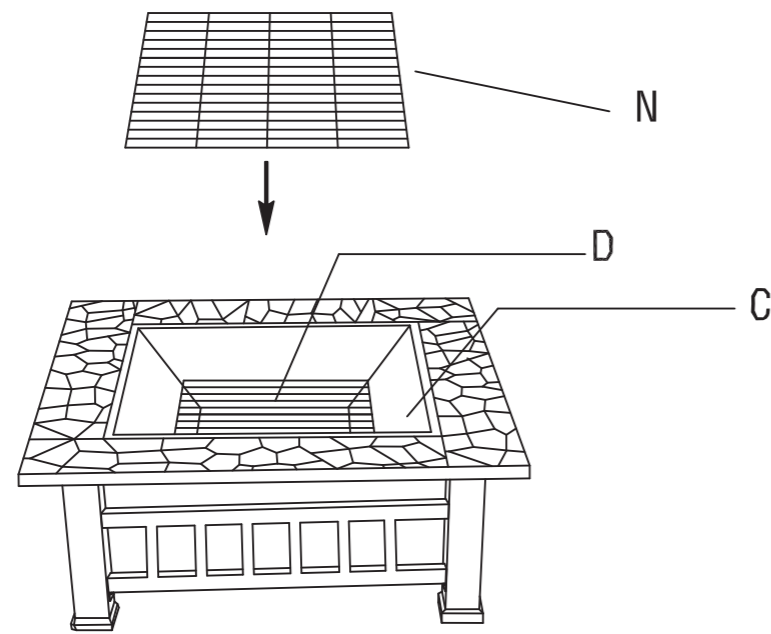

FIG4
Step 4 Tighten all the bolts accordingly with an Allen Wrench (N) (provided) until all pieces fit together securely. Then turn the assembled fire pit frame over so that it sits securely (legs down) on a flat surface. Place Square Bowl (C) on the base and put Log Grate (N) in the Square Bowl (C) . Then place Grill (D) in the Square Bowl (C). (View Fig 4)